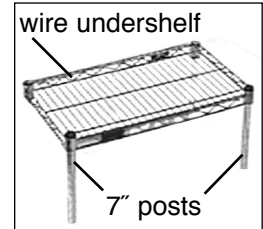

Figure 2a
- Assemble wire shelf to 7" posts (see *Figure 2a*).